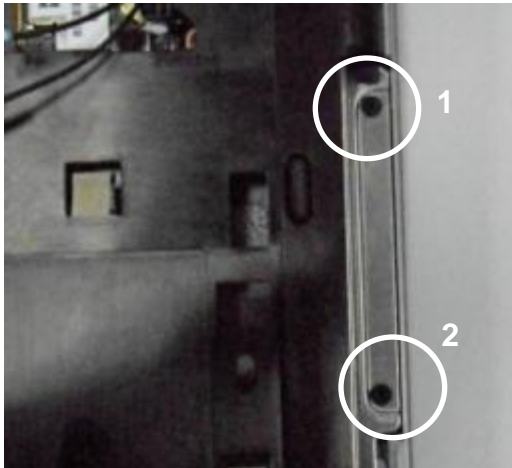

Fig.1
1. Loosen ODD screw (6052A0035101) * 2. (Fig.1)